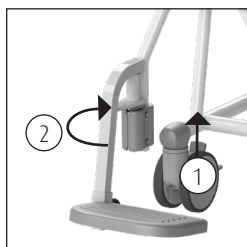

Figure 4. Turning out footrest.
- The footrests of the Tango XXL are adjustable in length. To do this, pull off the tube adjuster and select the desired position. Then push the tube adjuster back onto the frame (See figure 4).